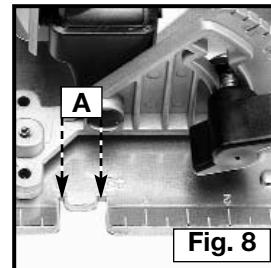

Fig. 8
Line-of-cut indicator slots (A) Fig. 8 are provided at the front of the saw base. The right slot is used to follow a line when making a 0° cut. The left slot is used to follow a line when making a 45° cut. The straight side of the notch indicates the cut line.